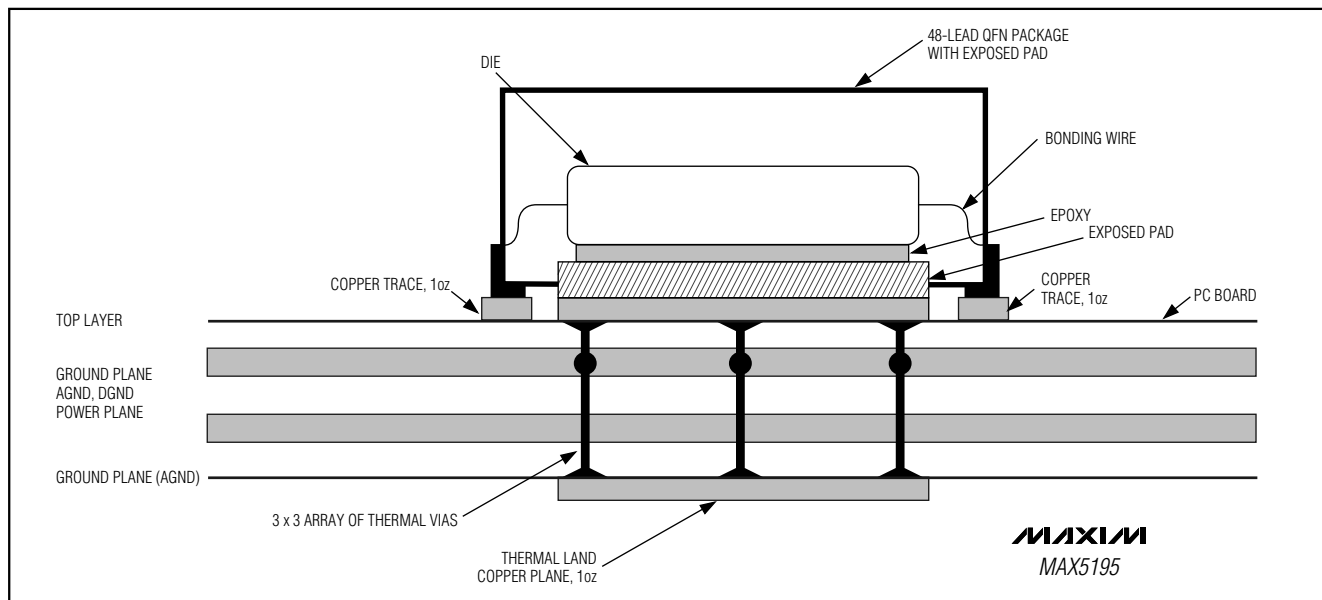

Figure 9. MAX5195 Exposed Paddle/PC Board Cross Section
The MAX5195 is packaged in a thermally enhanced 48-pin QFN-EP package, providing greater design flexibility, increased thermal efficiency, and a low thermal junction-case (θ_{jc}) resistance of $\approx 2^{\circ}\text{C/W}$. In this package, the data converter die is attached to an EP lead frame. The back of the lead frame is exposed at the package bottom surface (the PC board side of the package, Figure 9). This allows the package to be attached to the PC board with standard infrared (IR) flow soldering techniques. A specially created land pattern on the PC board, matching the size of the EP (5.5mm $\times$ 5.5mm), guarantees proper attachment of the chip, and can also be used for heat-sinking purposes. Designing thermal vias* into the land area and implementing large ground planes in the PC board design further enhance the thermal conductivity between board and package. To remove heat from a 48-pin QFN-EP package effectively, an array of 3 $\times$ 3 (or